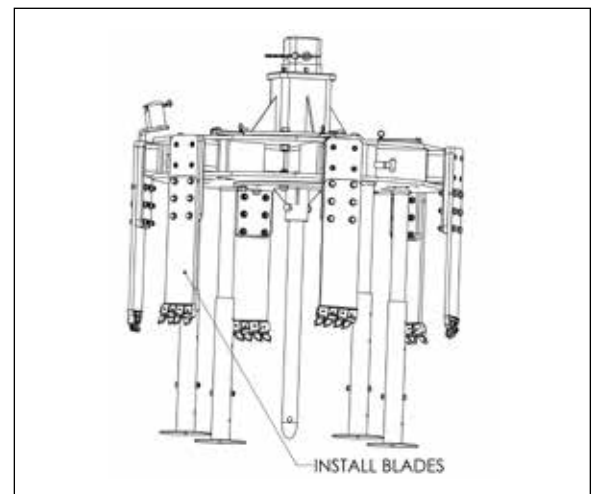

Figure 14. Install Cutting Blades
13. To maximize space in the shipping container, the Six Shooter is shipped with its Cutting Blades detached. The Cutting Blades must be installed in the operational position before use. To install the Cutting Blades, use the 1/2" bolts (36), nuts (36), and washers (72). Install all 6 Cutting Blades as shown in Figure 14. (One note: As you face the blade, the teeth should point left.) Tools needed for installation: 3/4" socket and 3/4" wrench.